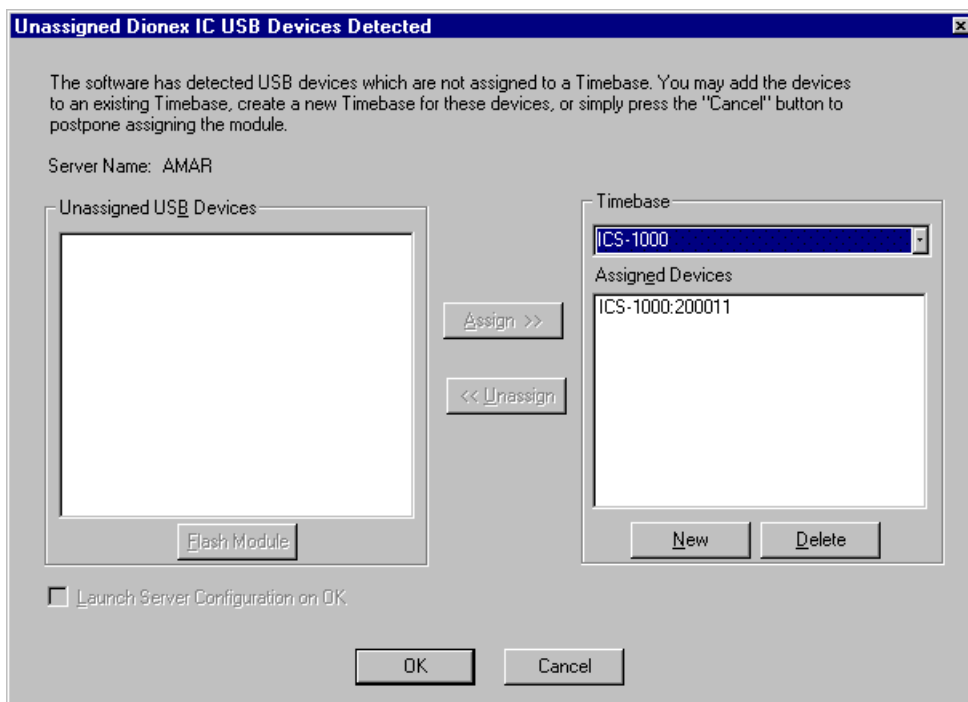

Figure B-11. ICS-1000 Assigned to a Timebase
7. In the Unassigned USB Devices box, select the ICS-1000 and then click the **Assign** button. The ICS-1000 is now assigned to the timebase (see Figure B-11). If you are installing more than one ICS-1000, you can verify the serial numbers for each by checking the label on the component panel.